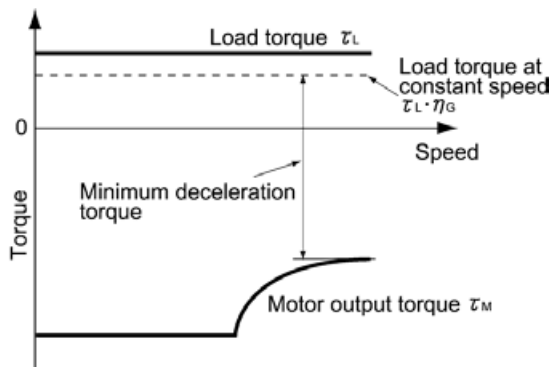
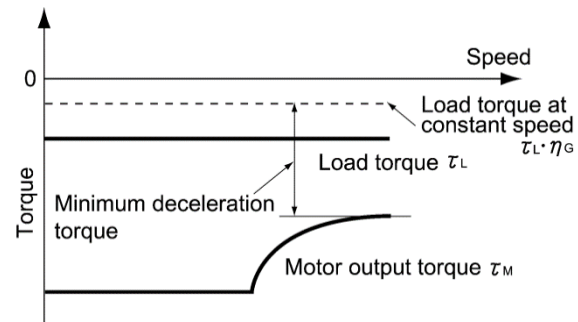

Fig. 10.2-3 Example study of minimum deceleration torque (1)
Fig. 10.2-4 Example study of minimum deceleration torque (2)
- 2) Calculate the **minimum deceleration torque** (See Fig. 10.2-3 and Fig. 10.2-4)